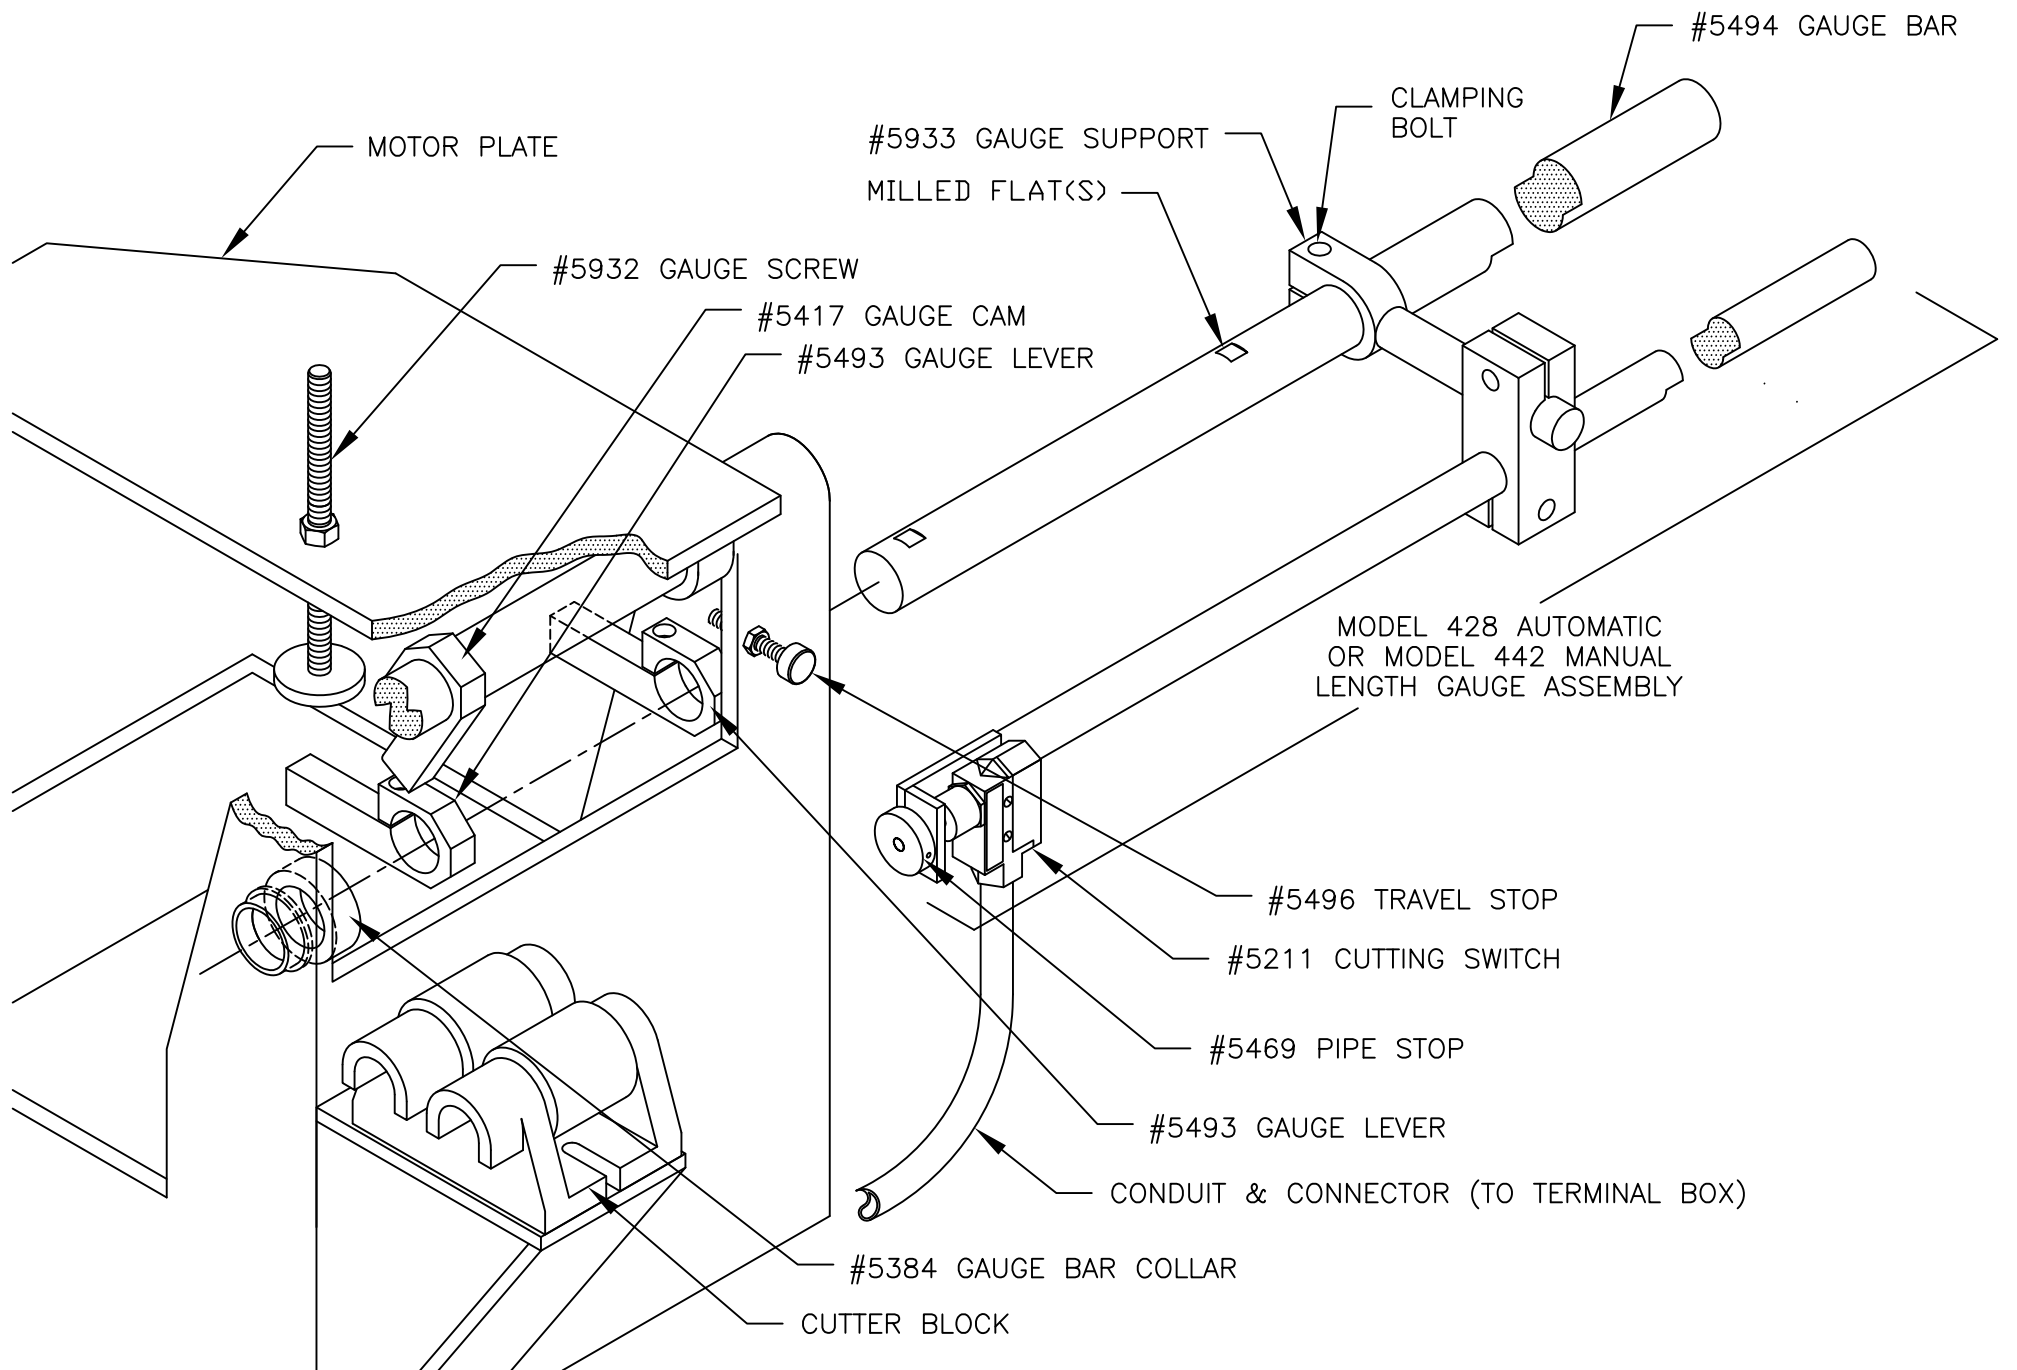

FIG. 1 — ASSEMBLY OF LENGTH GAUGE TO CUT-OFF MACHINE
2. Slide one #5384 Gauge Bar Collar, two #5493 Gauge Levers (Note the orientation of the Gauge Levers as shown in Figure 1.) and then the other #5384 Gauge Bar Collar onto the Gauge Bar.
4. Slide one #5493 Gauge Lever along bar until it is aligned with #5417 Gauge Cam and #5932 Gauge Screw. The other #5493 Gauge Lever should be aligned with the #5496 Travel Stop at the right side of the machine. See Figure 1.